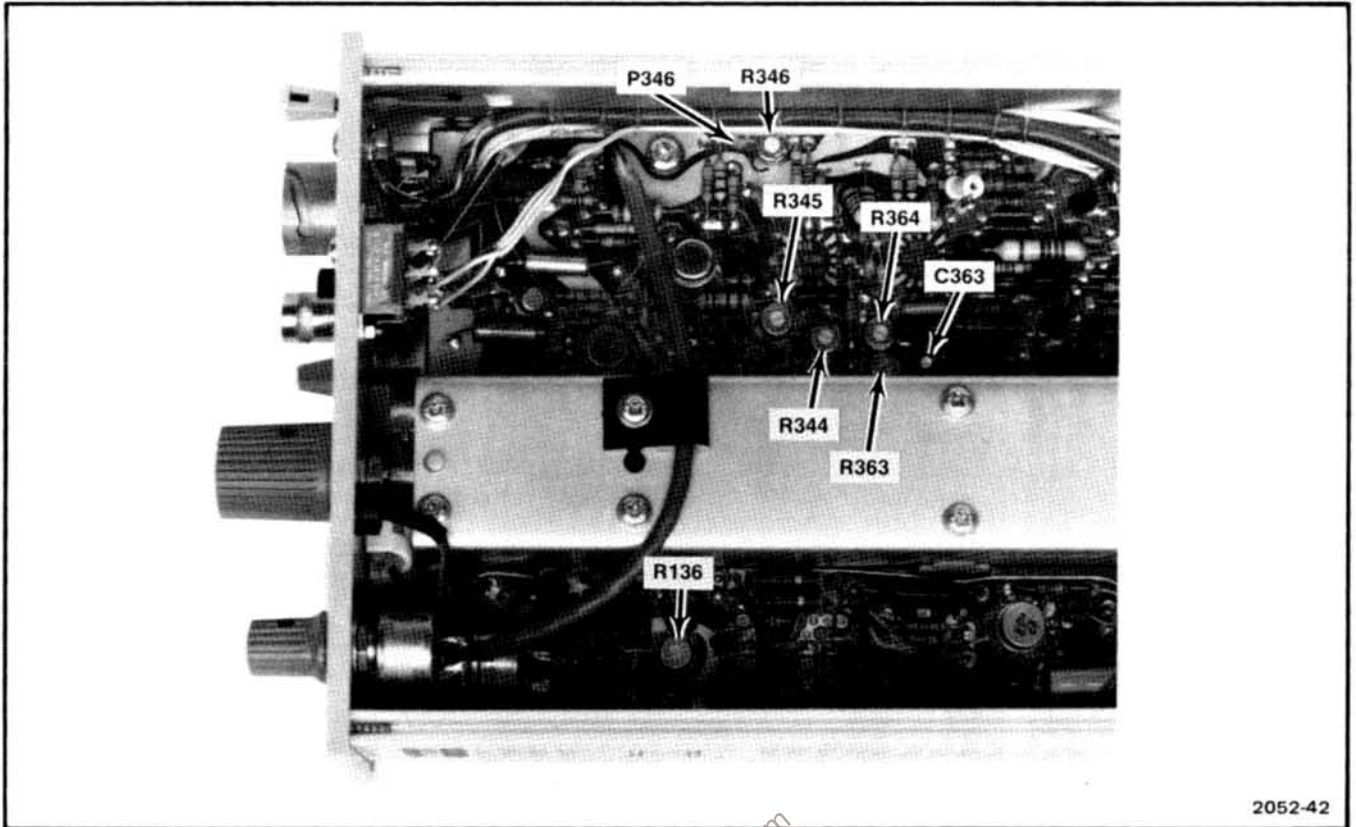

Fig. 3-3. Gain and compensation adjustment locations.
g. Adjust—R344 for a four-division display (see Fig. 3-3).
i. Connect a jumper wire between P346 (see Fig. 3-3) and ground.
l. Adjust—R136, Degauss Level (see Fig. 3-3), for a 4.4 divisions  $\pm 0.4$  division display.